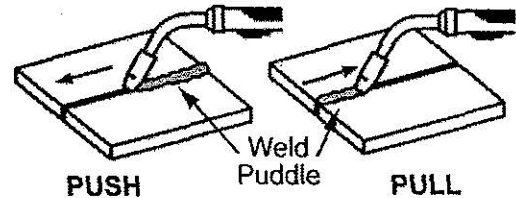

Figure 11. Travel Direction
1. **TRAVEL DIRECTION** is the direction the gun is moved along the weld joint in relation to the weld puddle. The gun is either **PUSHED** (see Figure 11) into the weld puddle or **PULLED** away from the weld puddle.